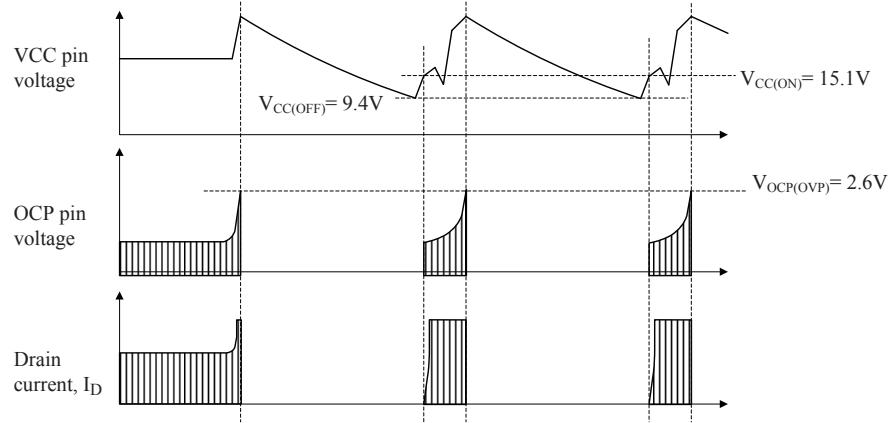

Figure 38. Waveforms when OCP pin OVP is being activated (LC552xD and LC552xF)
- OCP Pin Overvoltage Protection. Figure 38 shows the OCP pin OVP function. When the OCP pin voltage with reference to the S/GND pin reaches $V_{OCP(OVP)} = 2.6 V, OVP is activated.$